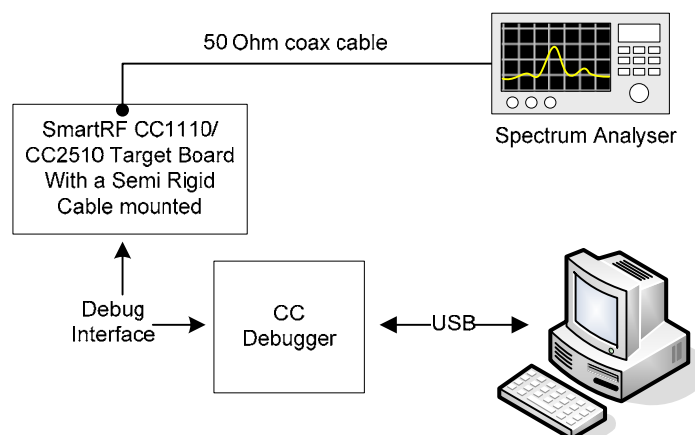

Figure 7-6 - Output power measurement
- Solder a semi rigid cable to test point T2 on the SmartRF CC1110 target board or T3 on the SmartRF CC2510 target board and turn the R1/R2 resistor from the PCB antenna position to the test point position, see more in section 6.6. Connect a 50 Ohm coaxial cable from the spectrum analyzer to the semi rigid cable and use the “Simple TX” test mode in SmartRF Studio to set the desired parameters. This is illustrated in Figure 7-6.